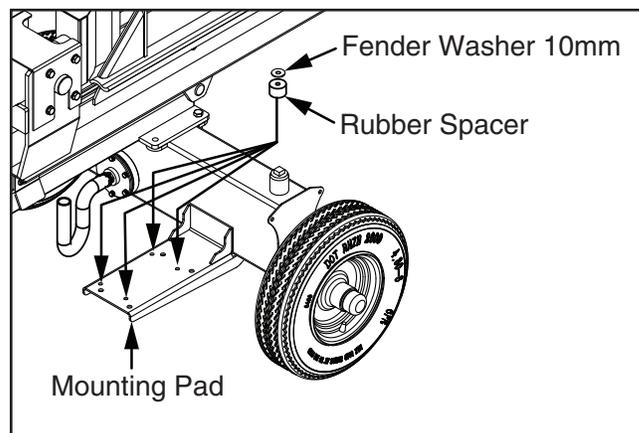

Figure 17. Installing rubber spacers and flat washers onto motor mounting pad.
11. Remove any paint chips or foreign material from engine mounting pad, then place (4) rubber spacers—each with a 10mm fender washer—over holes on engine mounting pad (see **Figure 17**).